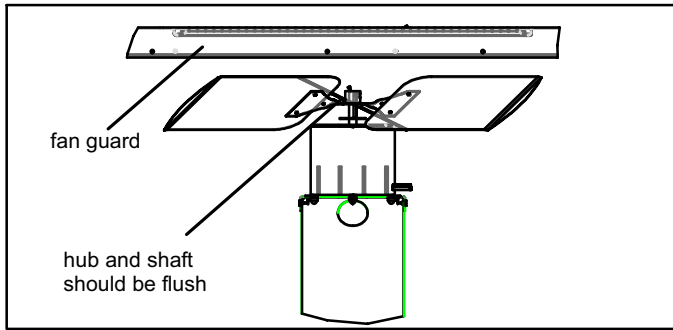

FIGURE 8
All 13CHA(X) units use single phase condenser fans. Specifications for the condenser fans are at the front of this manual. See figure 8 for fan and motor replacment.